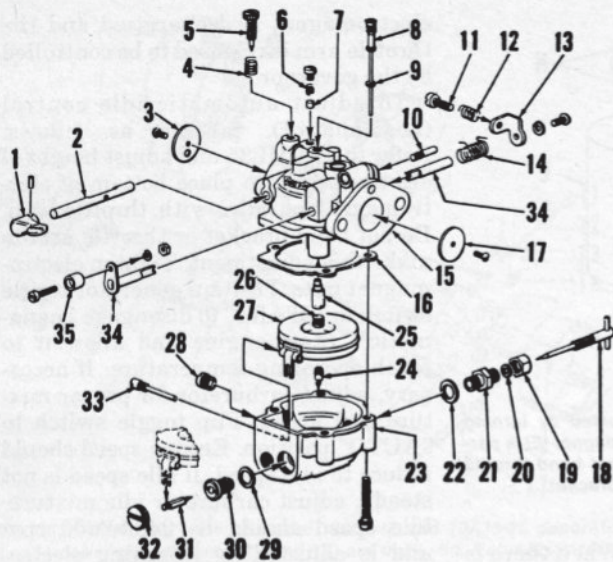
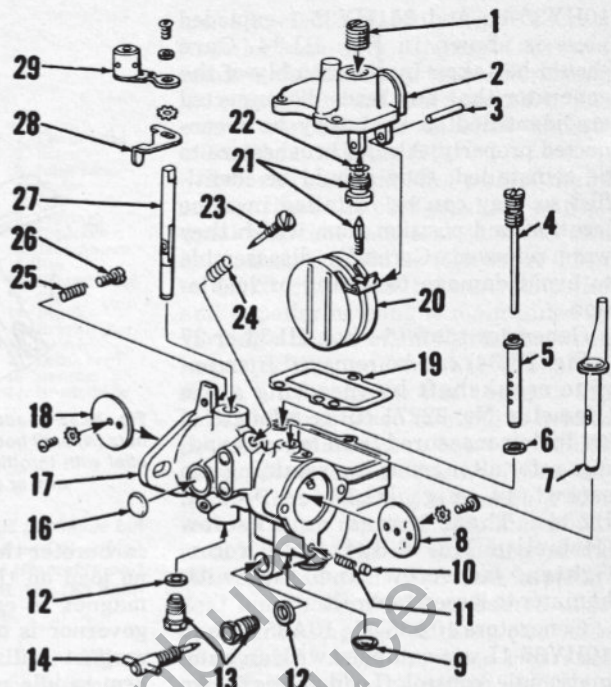

Fig. HL40—Exploded view of typical Tillotson Series MD carburetor as used on some Homelite pump models.
Fig. HL41—Exploded view of typical Series MT Tillotson float type carburetor as used on some Homelite pump and generator models.
refer to appropriate exploded view in Fig. HL40 or Fig. HL41, or to the cross-sectional view in Fig. HL43.
Normal idle needle (5—Fig. HL40) setting for Tillotson MD carburetors is ¼-turn open; main (high speed) needle (18) setting is 1¼-1½ turns open. Float setting with fuel bowl assembly held in upside down position should be 1/32-inch from the lowest point of float at free end, to rim of fuel bowl.
Normal idle needle (23—Fig. HL41) setting for Tillotson MT carburetors is ¾-turn open; main (high speed) needle (14) setting is 1-turn open. Float setting, with the float bowl cover assembly (2) inverted, should be 1-13/32-inch as measured from the top of the float (20) to the gasket surface of the float bowl cover.
Fig. HL42—Exploded view of fuel system on models using Tillotson float type carburetor. Exploded view of carburetor is shown in Fig. HL41. Actuating primer bulb (14) will pump fuel into carburetor float bowl.